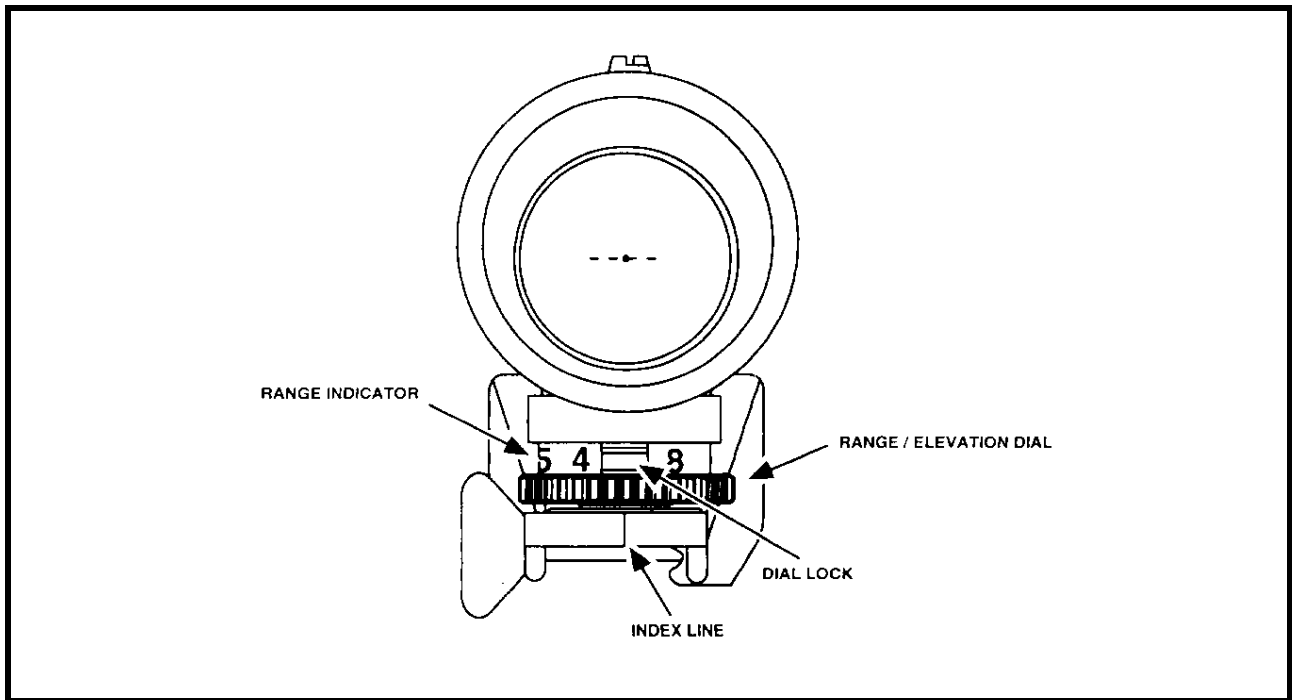

Figure 4-5 Optical Sight Assembly - End View
- (1) **Step One.** Turn the range/elevation dial clockwise until the range/elevation dial lock lines up with the index line on the rear base of the mount sight (see Figure 4-5).
- (2) **Step Two.** Using the tip of a bullet or screwdriver, flip the lock upward into the unlocked position. This permits the range/elevation dial to turn while the range indicator dial remains fixed in position.